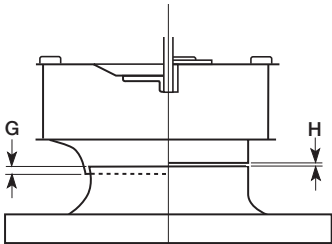

Figure 1
1. Check all fasteners for tightness. The wheel should rotate freely and be aligned as shown in Figure 1.
Wheel improperly aligned and rubbing	Center wheel on inlets. See Figure 1.